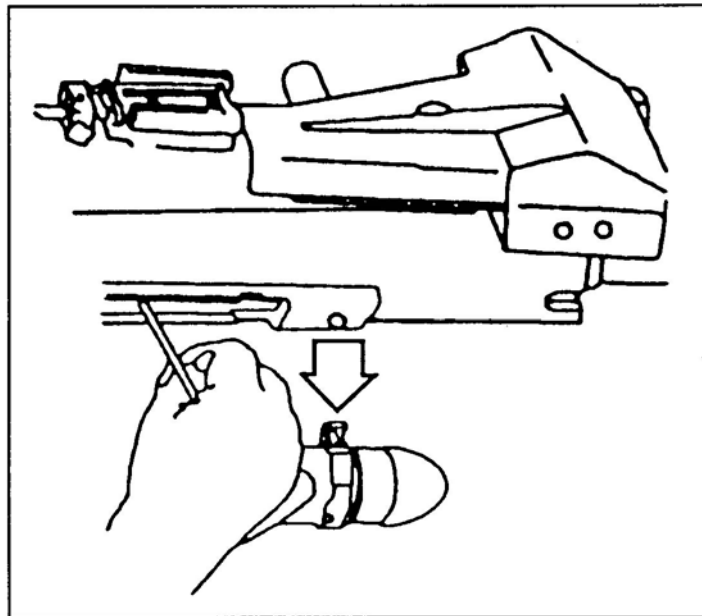

Figure 1. Removal of round or spent case.
1. Place the safety switch on the safe (S) position.
- a. Insert the tip of a cleaning rod through the right hand rail as close to the bolt face as possible (Figure 1).